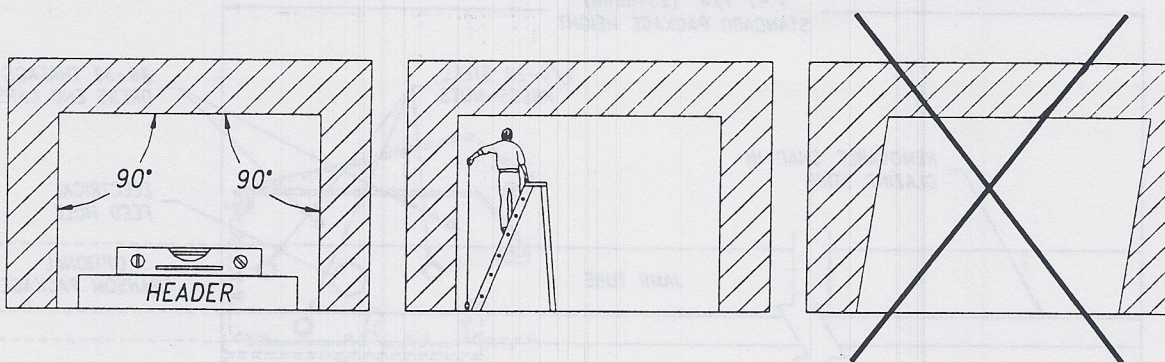

FIGURE 2: Check Rough Opening
- B. Check that the floor is level. Use a minimum 6'-0" (1829mm) level or use the actual aluminum header turned upside down to check floor (Figure 2).
- C. Using a plumb bob, check that the rough opening where the jambs will be mounted is vertical (Figure 2).
- D. Check the diagonal measurements to insure that the opening is a true rectangle, not just a parallelogram (Figure 2).